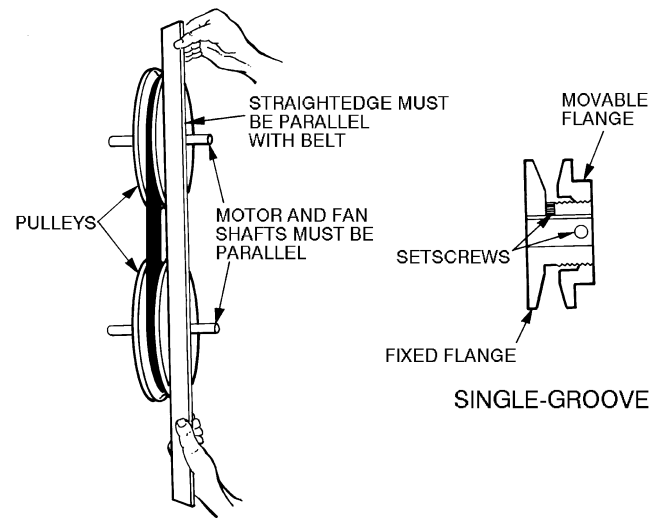

Fig. 36 — Evaporator-Fan Pulley Adjustment
3. Loosen movable pulley flange setscrew (see Fig. 36).